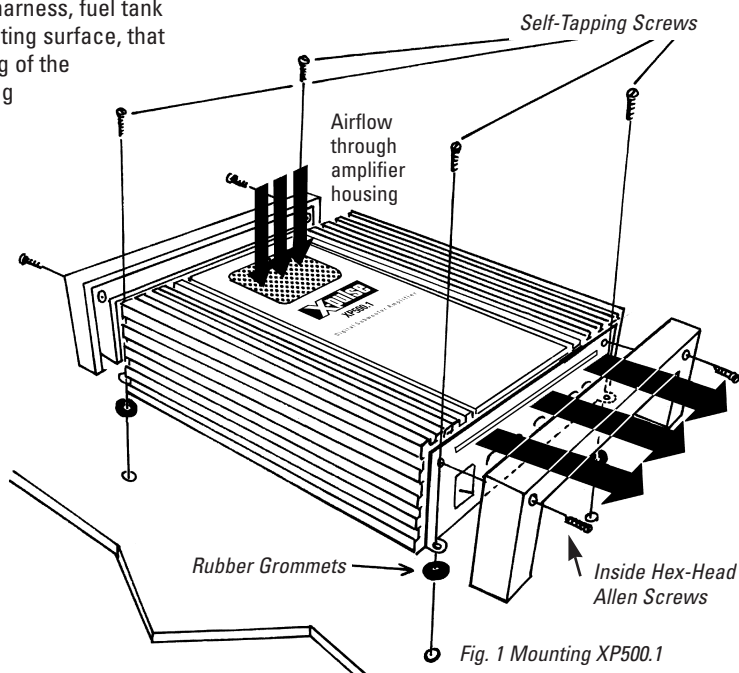

Fig. 1 Mounting XP500.1
Please note that the amplifier location must allow for a good airflow across and through the amplifier housing. The air outlet for the power supply ventilation is hidden underneath the detachable side panel on the signal input/control panel side of the amplifier (see fig.1). Adequate ventilation will optimize the performance of the XP500.1 and improve long-term stability dramatically. Good mounting locations for your digital subwoofer amplifier can be found e.g. under the passenger seat in the boot or on a stable mounting board made from MDF (medium density fibre-board).
- 1** Remove the side panels from the amplifier as shown in fig. 1 using the supplied 3 mm allen key in order to access the four mounting holes on the four outside corners of the XP500.1
- 4** Mount the amplifier in place using the supplied self-tapping screws with the supplied rubber grommets (see fig.1). **The rubber grommets protect the amplifier from electrical ground-loops** that can easily result in audible hum! Secure the amplifier in its position by tightening the screws evenly and re-check proper fit after completion.